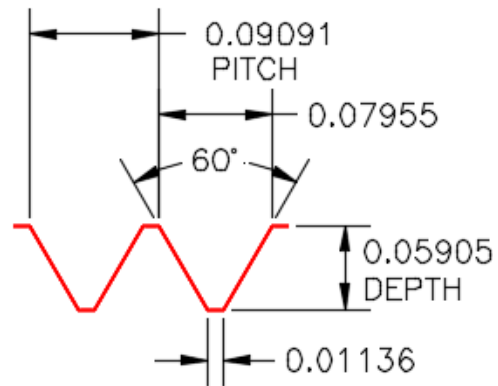

Figure Step 4A
Step 4 Using what you learned in the last workalong, on layer: Helix, draw the helix using the figure as a reference. (Figure Step 4A and 4B)